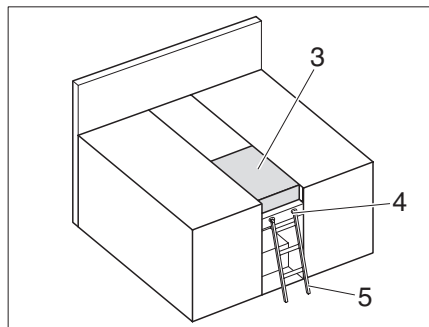

Fig. 105 Double bed
- Place additional cushion (Fig. 105,3).
- Remove additional padding (Fig. 105,3).
Always use the access ladder provided as standard to reach the top bed (Fig. 105).
- Hang the climbing ladder (Fig. 105,5) with the side rails into the bracket (Fig. 105,4) on the panel.